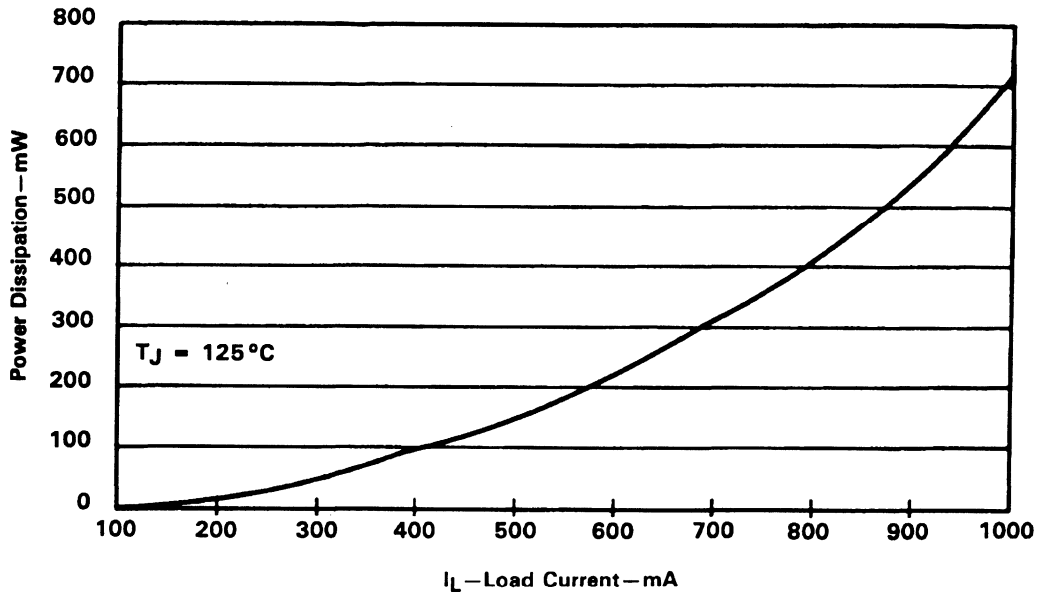

Figure 2. Typical Power Dissipation vs Load Current
Power dissipation of the TPIC2404's individual switches is a function of output load current and is determined from the graph in Figure 2. The requirement for external heat sinking is calculated based on the device's total average power dissipation, maximum junction temperature, and ambient operating temperature as seen in equation (1).
The equations from Figure 2 are as follows: